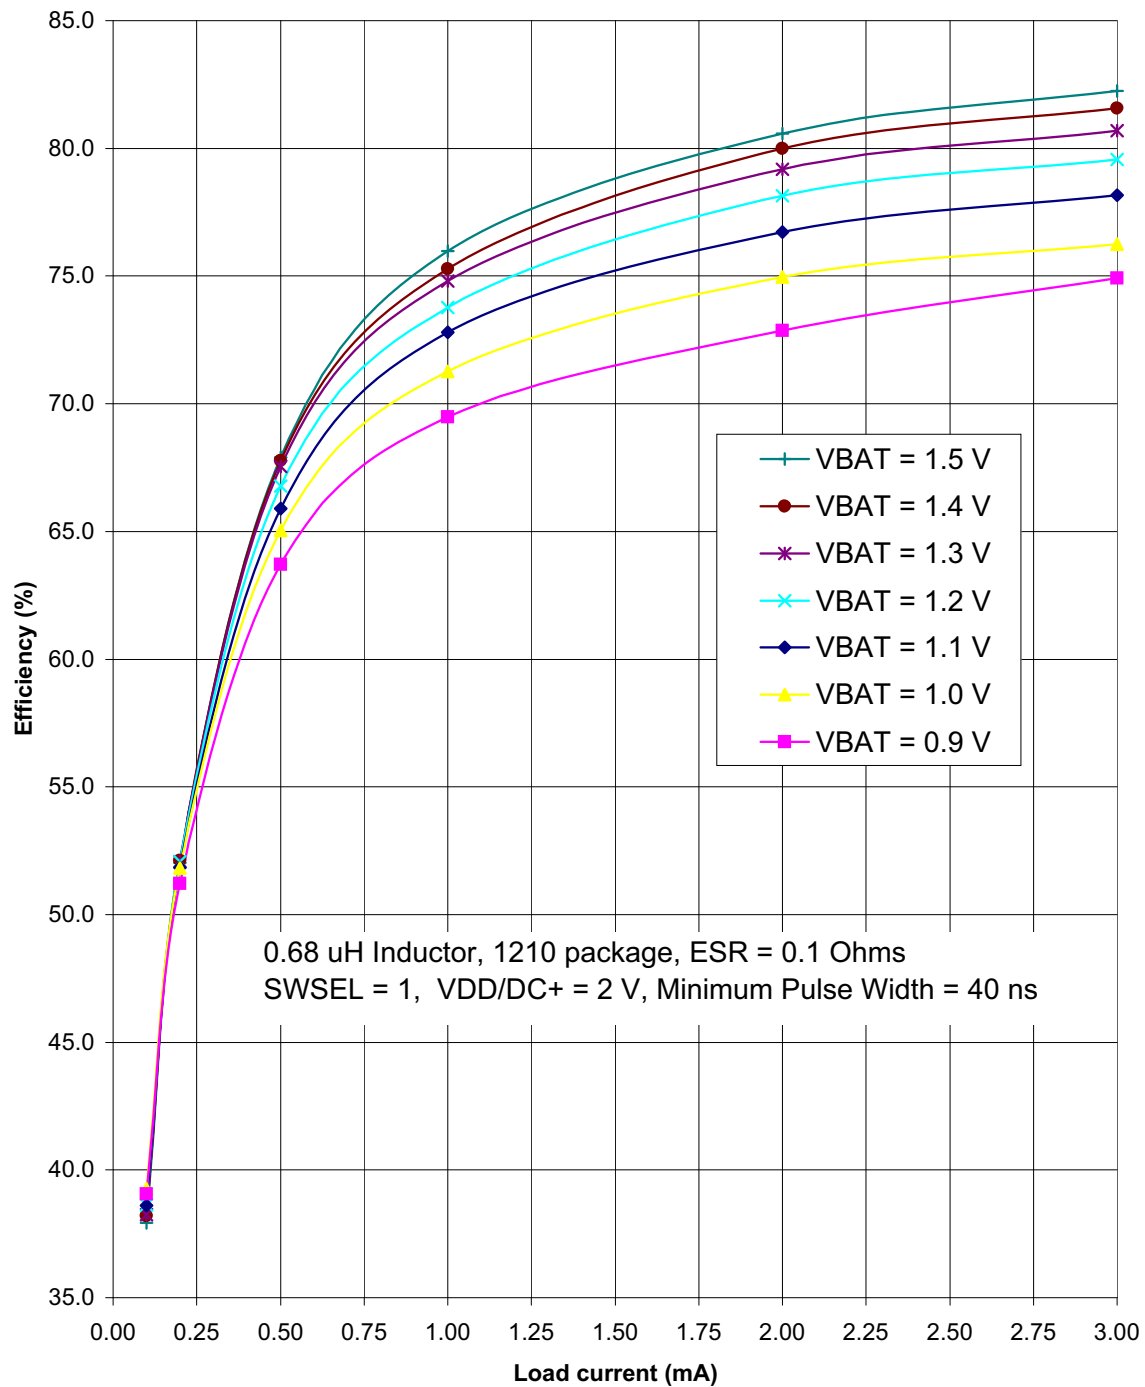

Figure 4.5. Typical DC-DC Converter Efficiency (Low Current, VDD/DC+ = 2 V)
Notes: <ol style="list-style-type: none"> <li>1. Based on device characterization data; Not production tested.</li> <li>2. SYSCLK must be at least 32 kHz to enable debugging.</li> <li>3. Digital Supply Current depends upon the particular code being executed. The values in this table are obtained with the CPU executing an "sjmp \$" loop, which is the compiled form of a while(1) loop in C. One iteration requires 3 CPU clock cycles, and the Flash memory is read on each cycle. The supply current will vary slightly based on the physical location of the sjmp instruction and the number of Flash address lines that toggle as a result. In the worst case, current can increase by up to 30% if the sjmp loop straddles a 64-byte Flash address boundary (e.g., 0x007F to 0x0080). Real-world code with larger loops and longer linear sequences will have few transitions across the 64-byte address boundaries.</li> <li>4. Includes oscillator and regulator supply current.</li> <li>5. IDD can be estimated for frequencies <math>\leq 14</math> MHz by simply multiplying the frequency of interest by the frequency sensitivity number for that range, then adding an offset of 90 <math>\mu</math>A. When using these numbers to estimate <math>I_{DD}</math> for <math>&gt;14</math> MHz, the estimate should be the current at 25 MHz minus the difference in current indicated by the frequency sensitivity number. For example: <math>V_{DD} = 3.0</math> V; <math>F = 20</math> MHz, <math>I_{DD} = 4</math> mA – <math>(25 \text{ MHz} - 20 \text{ MHz}) \times 0.102 \text{ mA/MHz} = 3.5</math> mA assuming the same oscillator setting.</li> <li>6. The supply current specifications in Table 4.2 are for two cell mode. The VBAT current in one-cell mode can be estimated using the following equation: <math display="block">VBAT \text{ Current (one-cell mode)} = \frac{\text{Supply Voltage} \times \text{Supply Current (two-cell mode)}}{\text{DC-DC Converter Efficiency} \times VBAT \text{ Voltage}}</math> <p>The VBAT Voltage is the voltage at the VBAT pin, typically 0.9 to 1.8 V.  The Supply Current (two-cell mode) is the data sheet specification for supply current.  The Supply Voltage is the voltage at the VDD/DC+ pin, typically 1.8 to 3.3 V (default = 1.9 V).  The DC-DC Converter Efficiency can be estimated using Figure 4.3–Figure 4.5.</p> </li> <li>7. Idle IDD can be estimated by taking the current at 25 MHz minus the difference in current indicated by the frequency sensitivity number. For example: <math>V_{DD} = 3.0</math> V; <math>F = 5</math> MHz, Idle <math>I_{DD} = 2.1</math> mA – <math>(25 \text{ MHz} - 5 \text{ MHz}) \times 0.079 \text{ mA/MHz} = 0.52</math> mA.</li> <li>8. Internal LFO only available on 'F912 and 'F902 devices.</li> <li>9. Ability to disable VBAT supply monitor only available on 'F912 and 'F902 devices.</li> </ol>